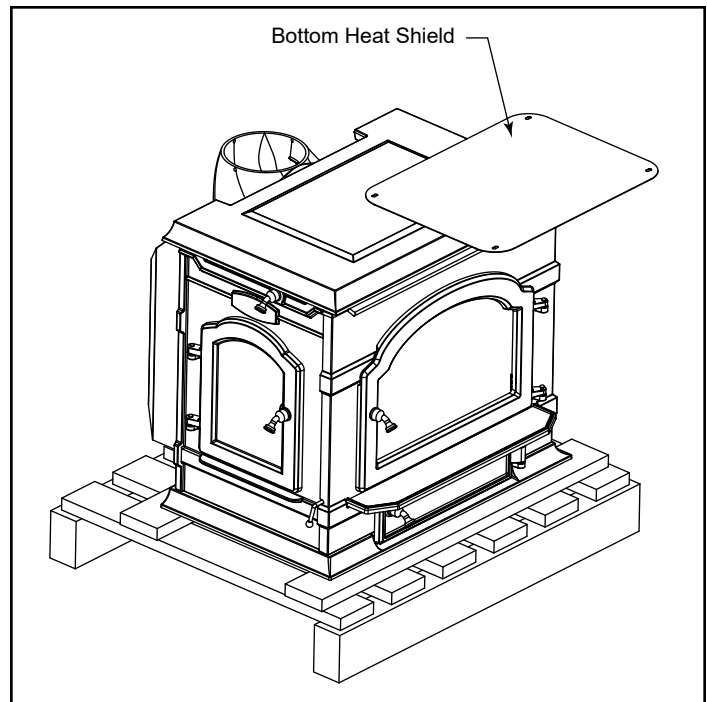

Figure 19 - Remove bands holding stove to pallet and remove heat shield from top of stove.
1. Remove the band that holds the stove to the pallet and remove the bottom heat shield that was positioned on top of the stove. (Figure 19)